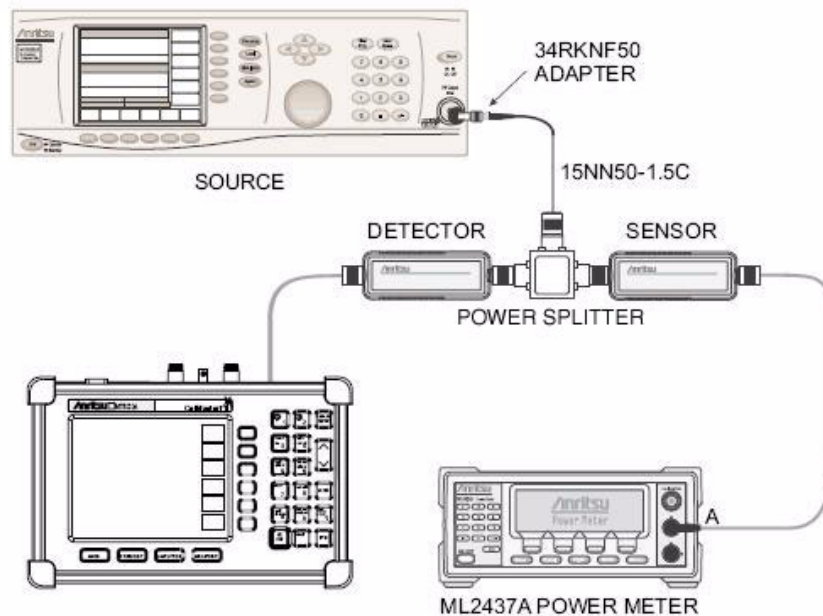

Figure 2-11. Power Monitor Verification (Option 5) Test Setup
4. Connect the 560-7N50B detector, power splitter, MA2442D power sensor, and other equipment as shown in Figure 2-11.